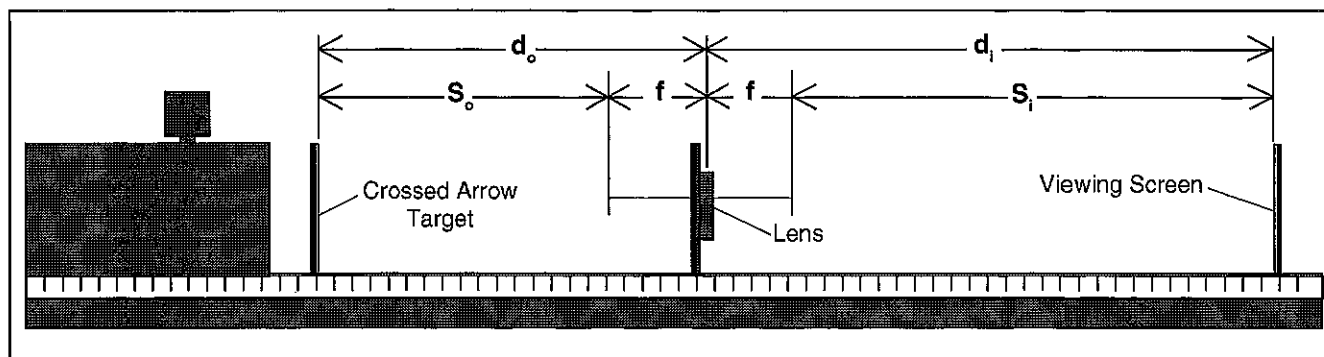

Figure 7.1: Equipment Setup
where f is the focal length of the lens, and d_o and d_i are the distance from the mirror to the image and object respectively (see Figure 7.1). The magnification of the image is given by the equation:
►NOTE: Instead of the above equation, you may have learned the Fundamental Lens Equation as $S_o S_i = f^2$, where S_o and S_i are the distances between the principle focus of the lens and the object and image, respectively. If so, notice that $S_o = d_o - f$, and $S_i = d_i - f$ (see Figure 7.1). Using these equalities, convince yourself that $1/d_o + 1/d_i = 1/f$ and $S_o S_i = f^2$ are different expressions of the same relationship.
Set up the equipment as shown in Figure 7.1. Turn on the Light Source and slide the lens toward or away from the Crossed Arrow Target, as needed to focus the image of the Target onto the Viewing Screen.